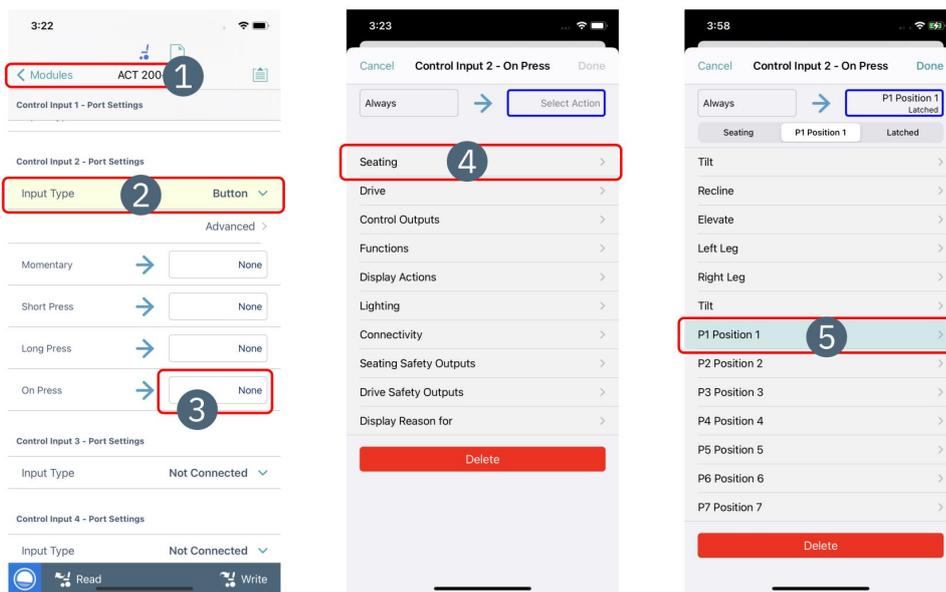

Figure 102: Configure a control input steps 1-5
1. From the home screen, tap **Modules | [module] | CONTROL INPUT [n] - PORT SETTINGS** (where [module] is a power module or actuator module, and [n] is the control input number) – see *Figure 102*.